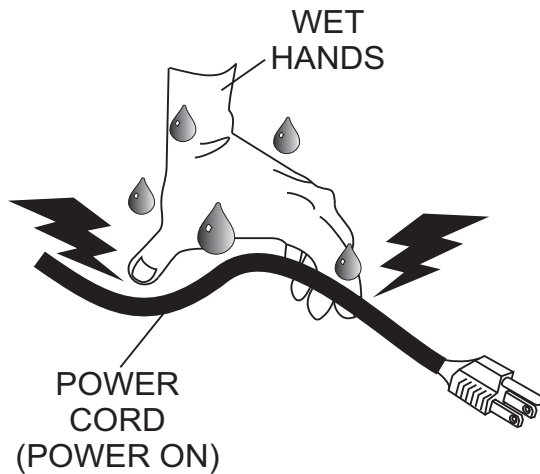

Figure 4. Power Cord (Wet Hands)
4. **NEVER!** grab or touch a live power cord (Figure 4) with wet hands, the possibility exists of **electrical shock, electrocution** and even **death**.